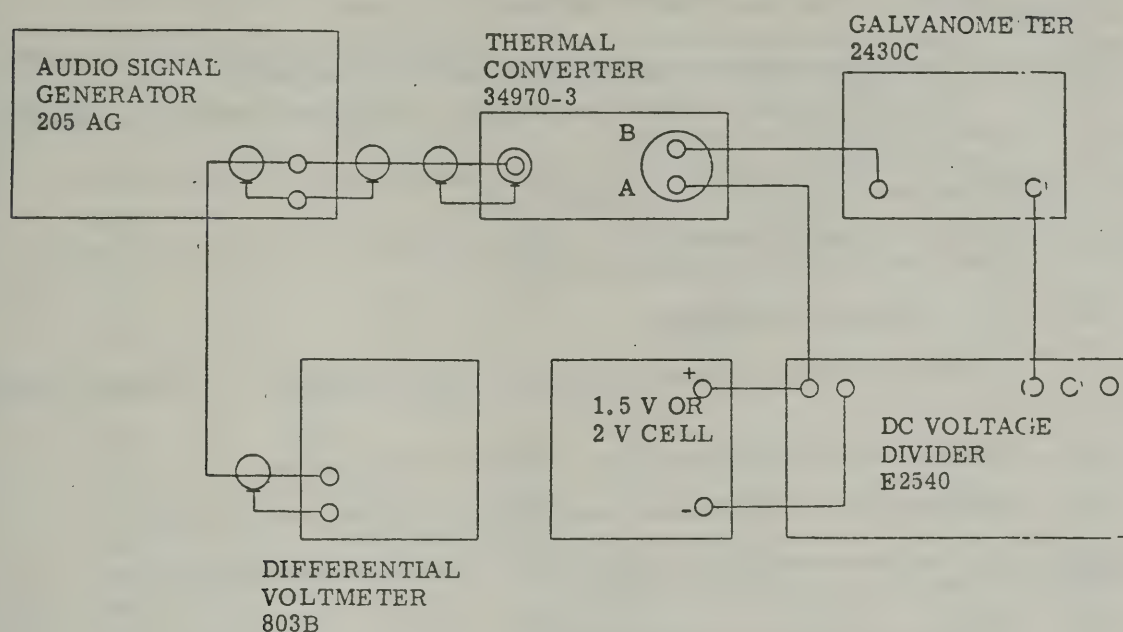

Figure 1
4.1.1 Connect the equipment as shown in Figure 1.